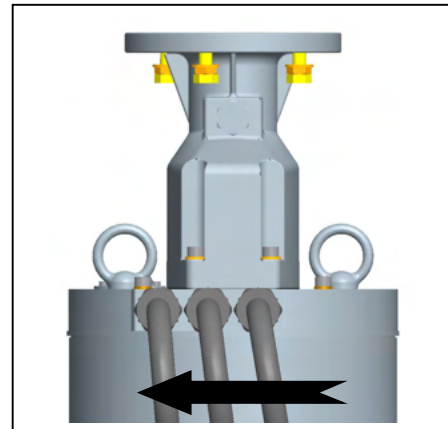

Fig. 30
- Move the vertical axis to the left (black arrow – Fig.30) and unscrew the screws 1-4-3 and fix the M12 screw until the end of the working range.